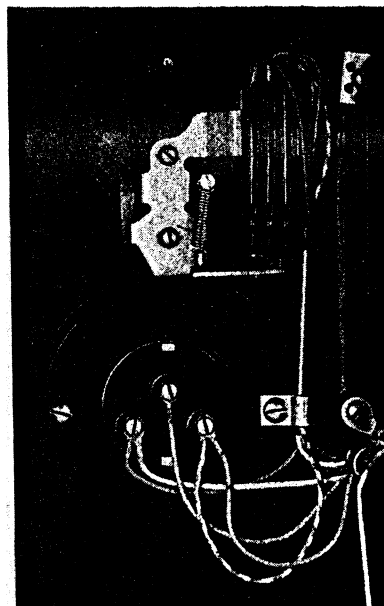

Fig. 17 — Switchhook and 94A Apparatus Blank Assembly
3.04 Fig. 17 shows the mounting of the switchhook assembly in the 354-type telephone set.